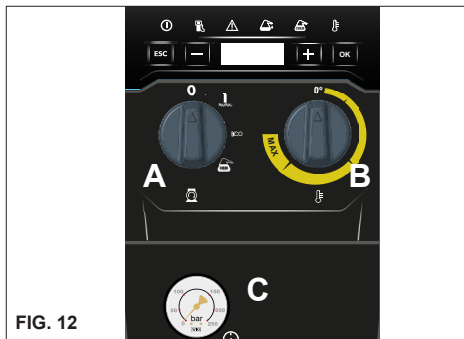

FIG. 12
N.B. To reset the indicators, rotate the main switch "A" (fig. 12) to the "0" position and then to the "I" position. Refer to the "Control Panel".